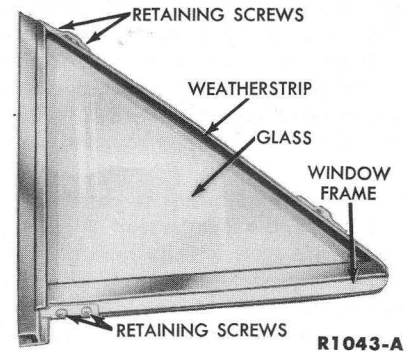

FIG. 9—Stationary Glass
3. Disassemble the window frame (Fig. 9), and install the glass.